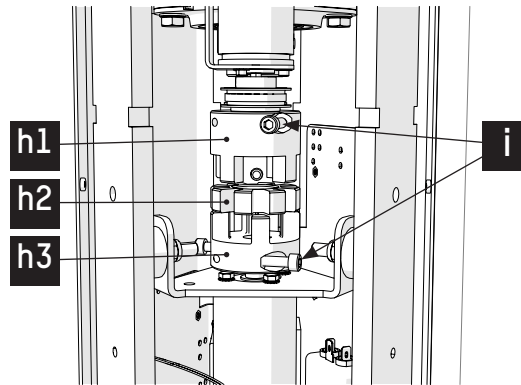

Fig. 43 - Motor replacement (Coupling removal)
8. To remove each metal part of the elastic coupling (**h1** and **h3**), unscrew the screws (**i**) (two per metal part) (Fig. 43);